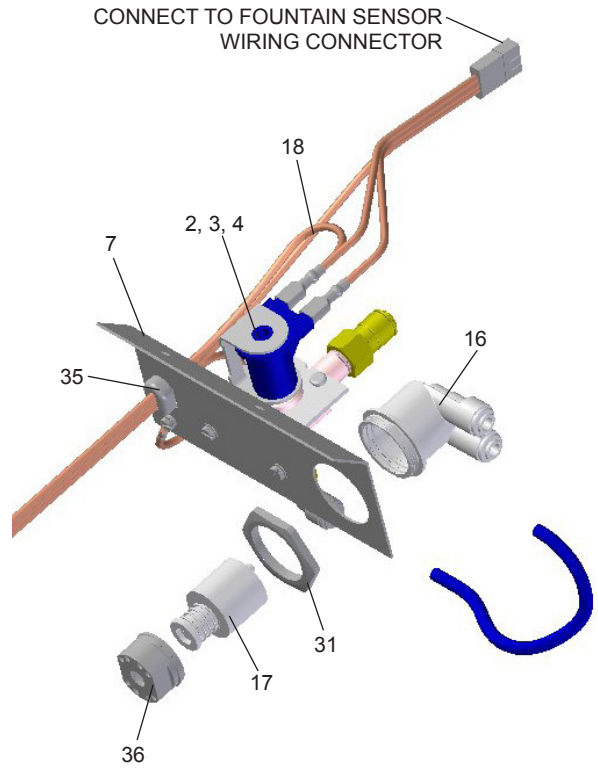

Figure 8 - Regulator Assembly (Item 8)
10. **Connect power cord of sensor to solenoid valve assembly by running it through the back panel and connecting it to terminal shown in Fig. 8.**
14. **Check stream height from bubbler.** Stream height is factory set at 35-40 PSI. If supply pressure varies greatly from this, please do the following. For **Electronic sensor units only**, remove lower panel (Item 26 - Fig. 6) and turn adjustment screw on the regulator (Item 17 - Fig. 8). Clockwise adjustment will raise stream height and counterclockwise movement will lower stream height. For best adjustment stream should hit basin approximately 6-1/2" from the bubbler.